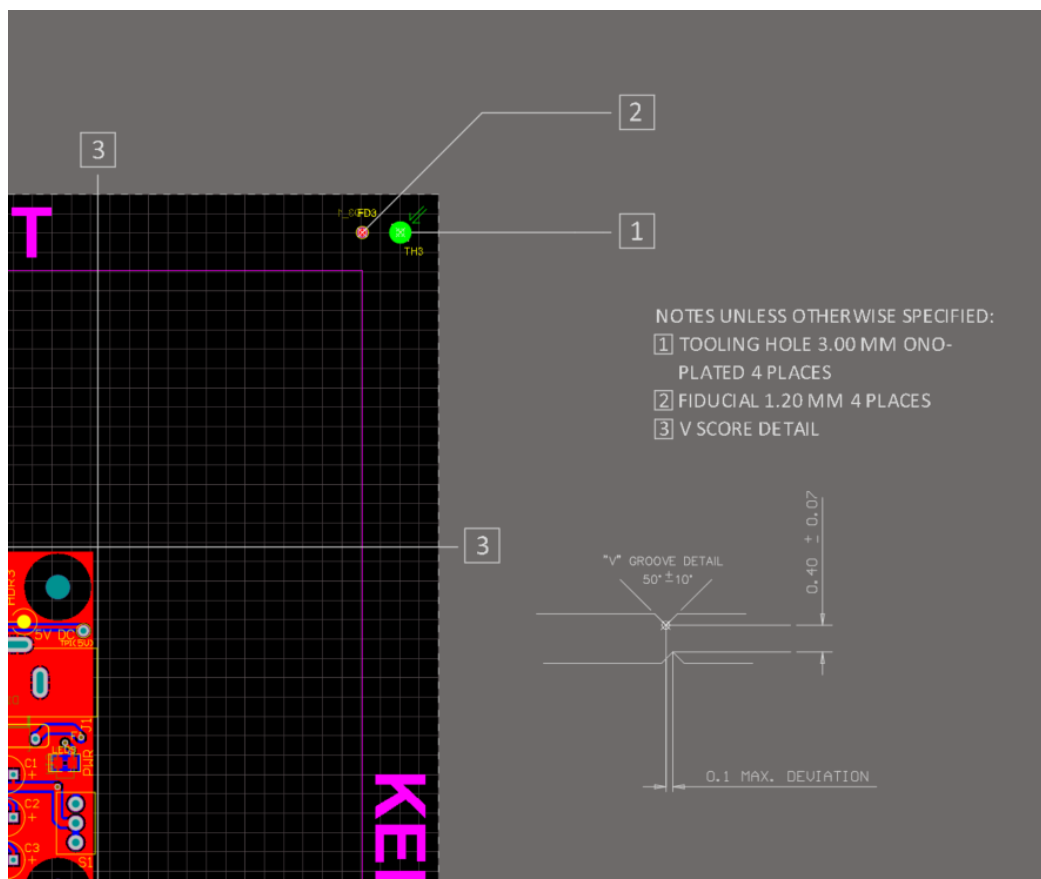

Figure 29. VSCORE line details and callout
57. Notice under the *Notes* section, just to the upper right of the board, VSCORE details have been added as shown in Figure 29.